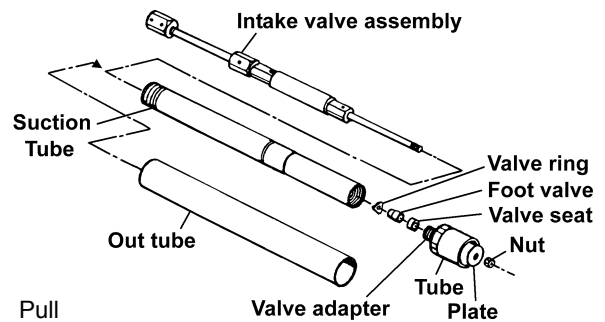

Fig.12
- 12) Insert the intake valve assembly to the suction tube. (Fig.12)
- 13) Insert the valve ring, the foot valve and the valve seat in order of it. Be sure the direction of each part is correct. (Fig.12)
- 14) Screw the valve adapter and the tube. Install the plate with the nut. (Fig.12)